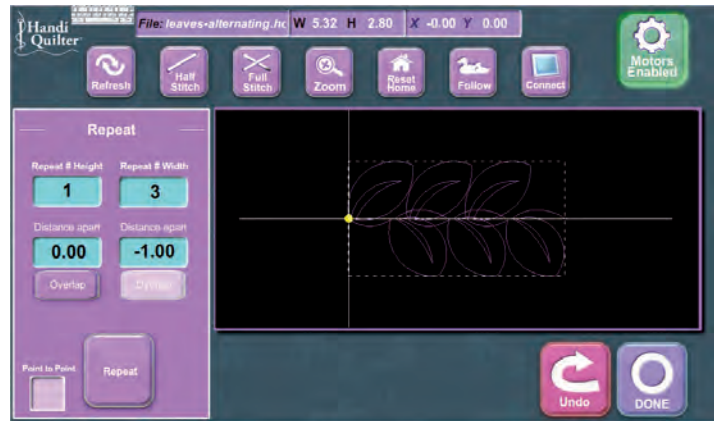

Figure 25
3. If the patterns should be overlapped, enter the overlap distance in the appropriate “Distance Apart” box followed by the “Overlap” button. The value in the “Distance Apart” box will turn to a negative number. (Figure 25).